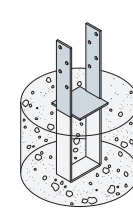

Fig 1: CBQ cast into concrete
1. Position CBQ into pre poured wet concrete so that bottom of the base plate is flush with the top surface of the new foundation (Fig 1)